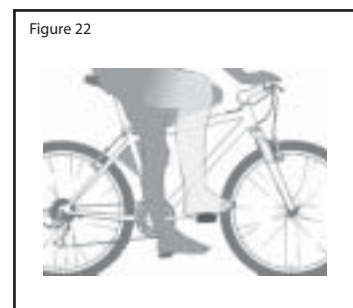

Figure 22
1. Toe Overlap (figure 22) is when your toe can touch the front wheel when you turn the handlebars to steer while a pedal is in the forward most position. This is common on small-framed bicycles, and is avoided by keeping the inside pedal up and the outside pedal down when turning.